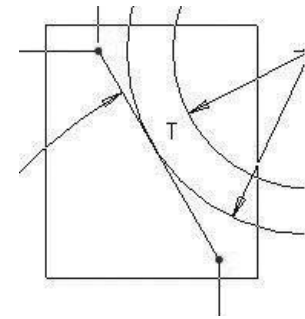

Figure 3-64 Zoom In
Step 29:  Select the **Zoom In** icon from the graphics tool bar. Draw an imaginary box around the area where the outer diameter of the pipe touches the slanted surface using the LMB. See Figure 3-64. Press the MMB to exit from this mode.